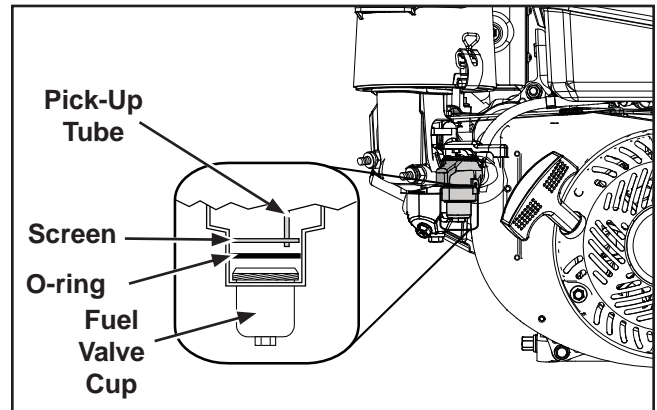

Figure 5-6. Pick-up Tube and Screen Orientation.
6. Check the O-ring, replace if damaged. Check the screen for blockage or damage, replace if necessary. The new screen must be located on the pick-up tube as shown in Figure 5-6.
7. Place the O-ring on the screen followed by the fuel valve cup. Rotate the fuel valve cup until it is finger tight. Turn with a wrench 1/2 to 3/4 turn. See Figure 5-6.